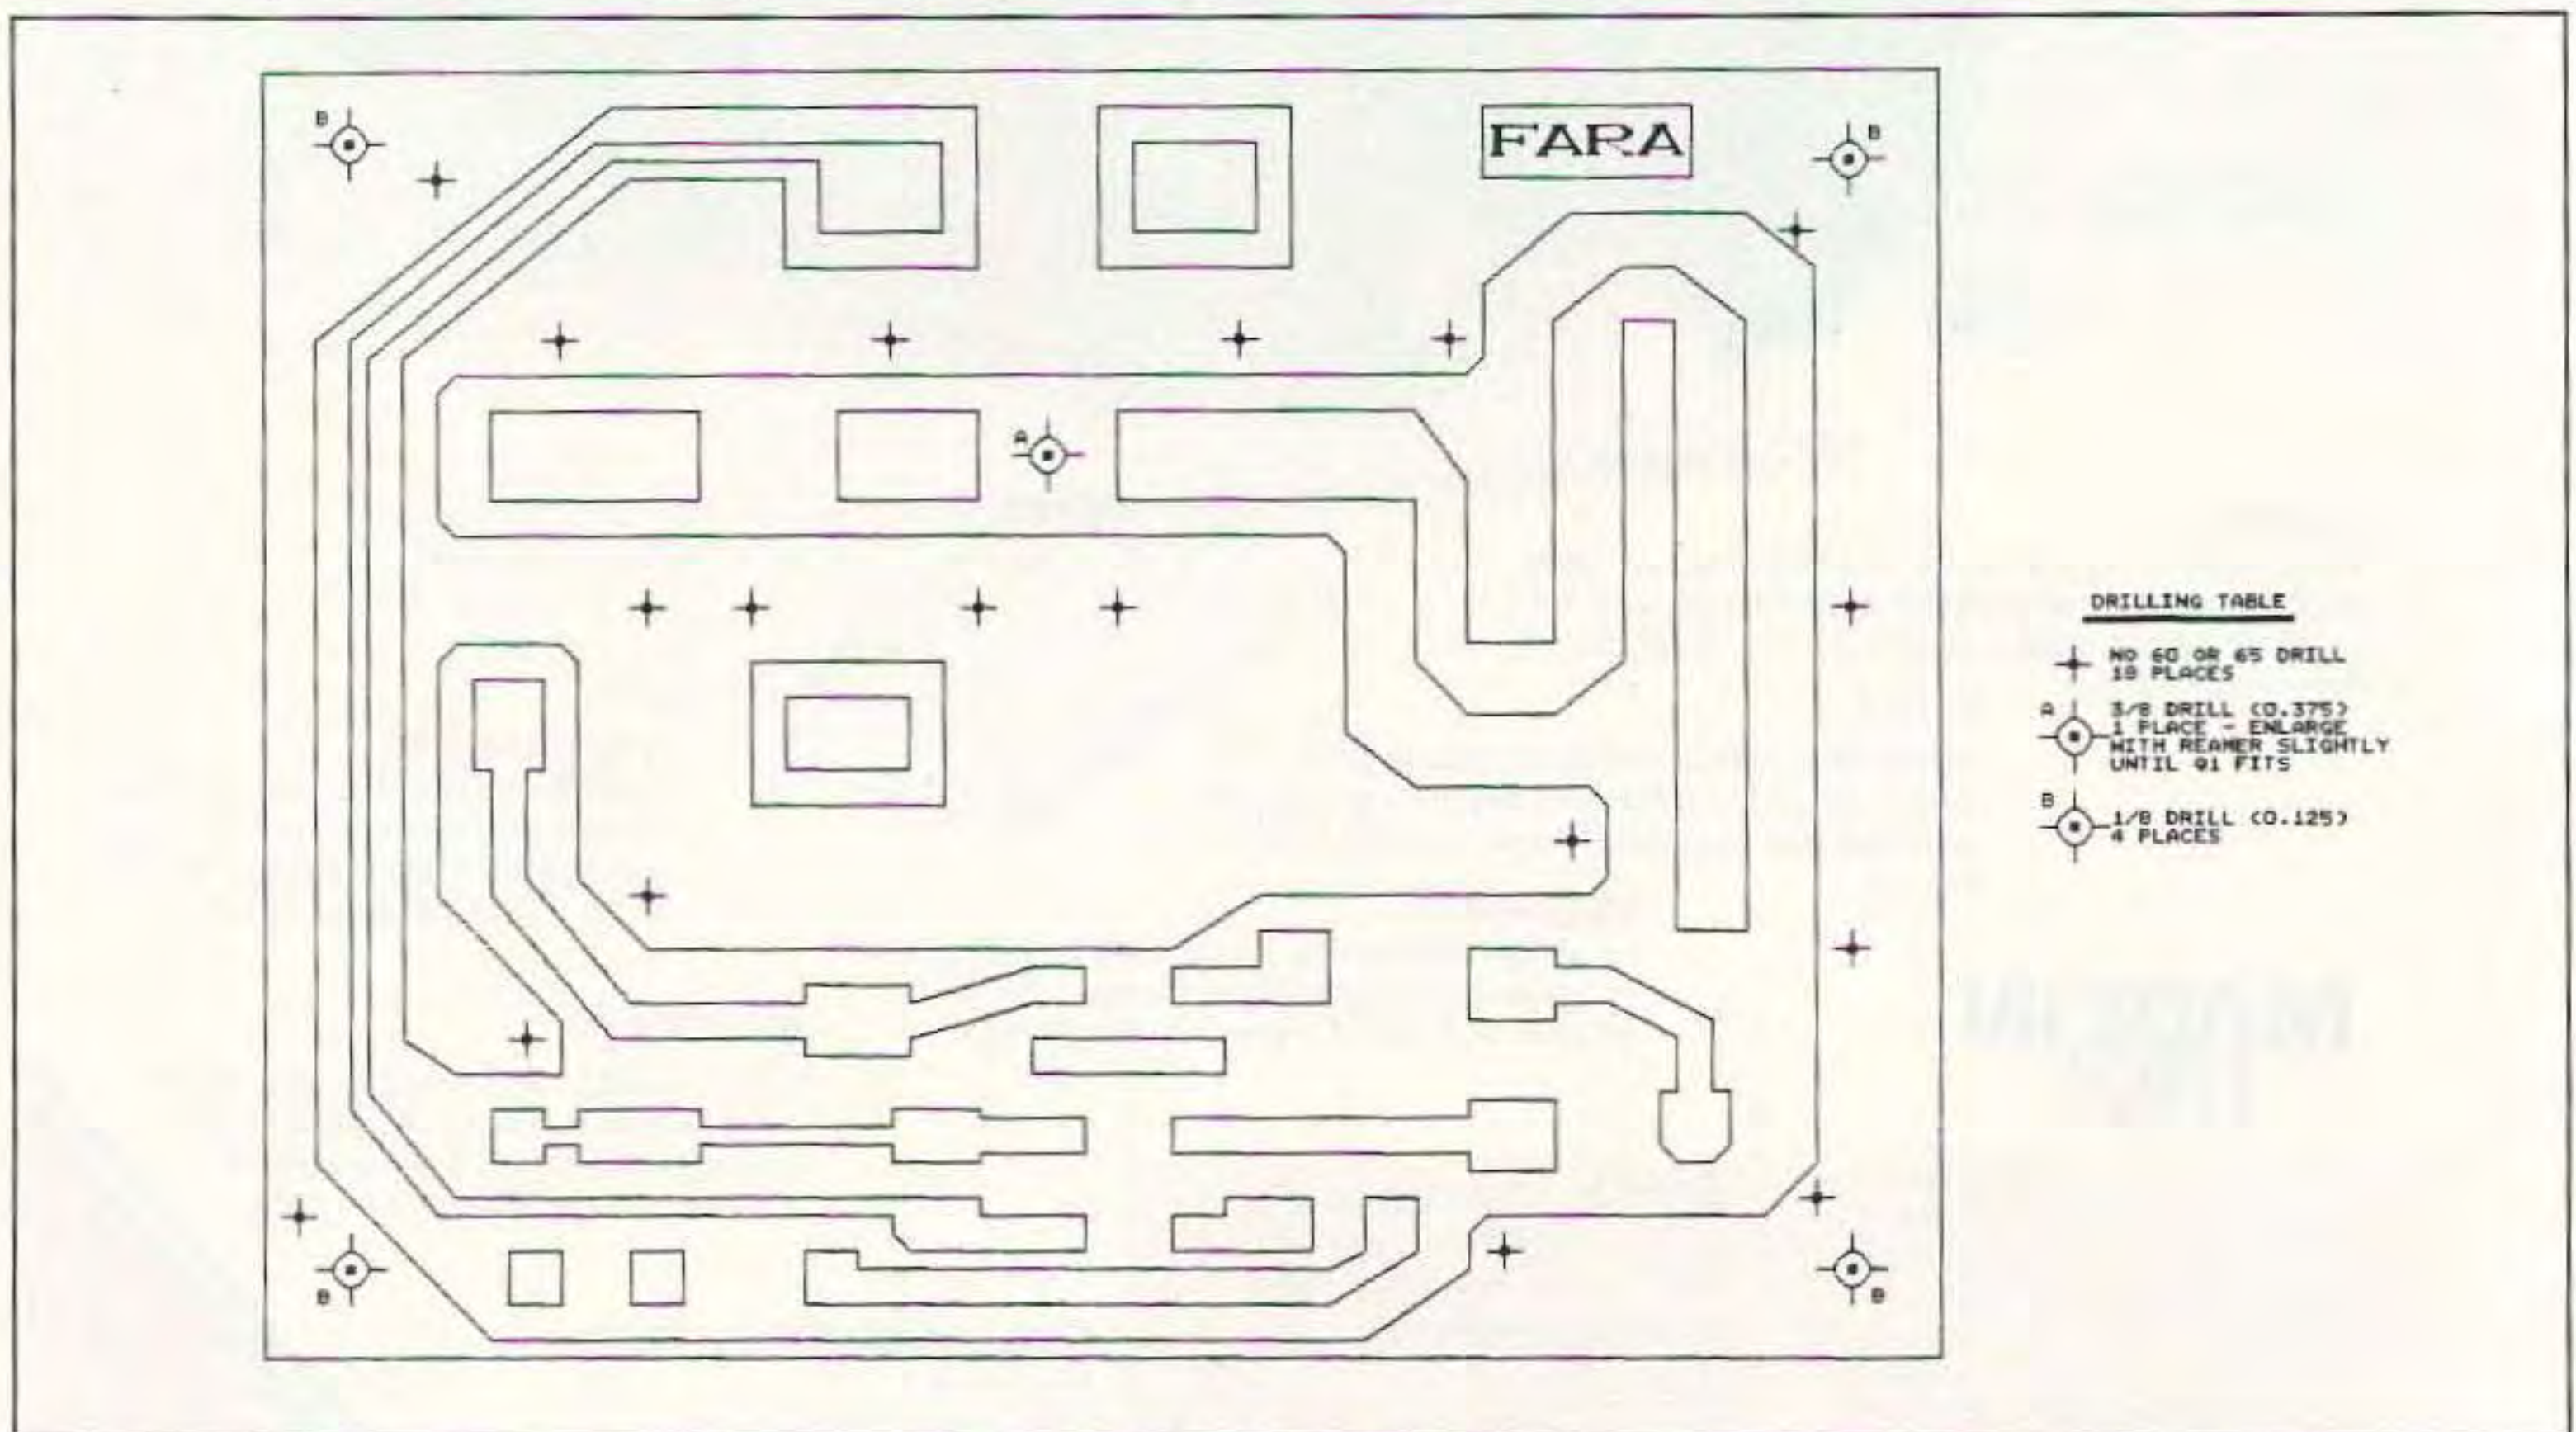

Figure 4. Drilling template.
Low impedance grounds are crucial to the operation of the amplifier. A number of holes (18) must be drilled through the board (see Figure 4). No. 20 wire is inserted through these holes and soldered to electrically tie both sides of the circuit board together at the